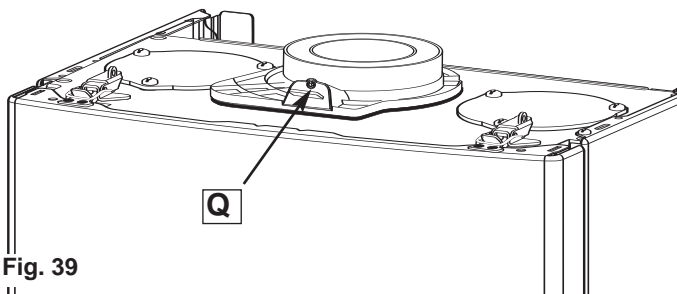

Fig. 39
3. Turn on the combustion analyser, remove the combustion test point plug **Q** (Fig. 39) and insert the analyser probe into the test point;
2. **Fill the condensate trap with water, by pouring $\frac{1}{2}$ litre of water into the exhaust flue connector (see Fig. 39). N.B. In the event of a prolonged period of system shutdown, the condensate trap should be filled before any renewed use. A shortage of water in the trap could possibly lead to a temporary leakage of fumes into the air, until it refills itself;**